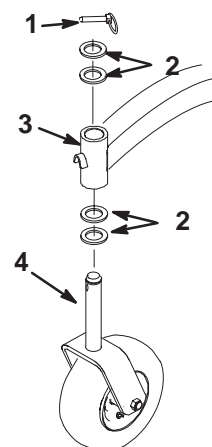

Figure 65
2. Remove the locking pin and spacer(s) from the top of the caster wheel fork (Fig. 65).
6. Inspect the caster wheel fork for wear and replace if necessary (Fig. 65).
7. Slide the caster wheel fork through the bushings in the mounting tube. Replace the spacer(s) onto the fork and secure with the retaining ring (Fig 65).